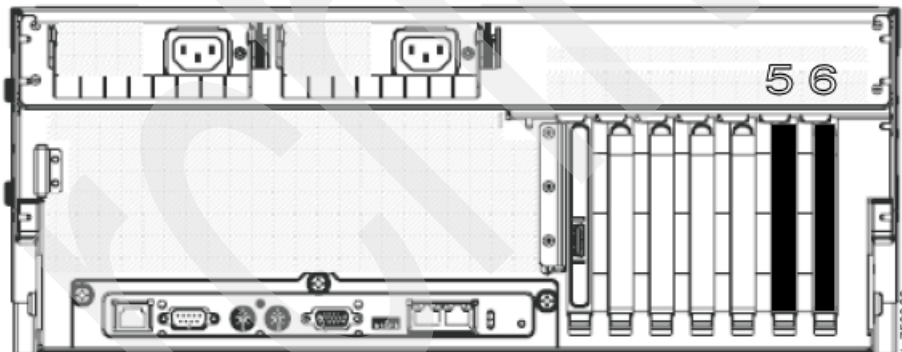

Figure 12-1 Rear side including 4-port Ethernet adapters
- ▶ Which ports you want in each bond. When viewing the rear of the server (Figure 12-1):